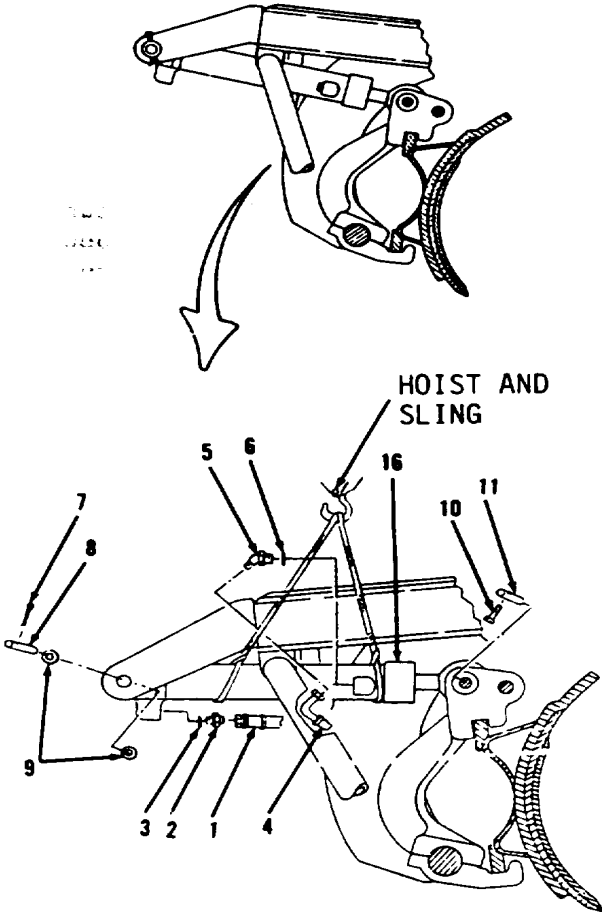

Figure 10-126.
1. Disconnect hose assembly (1, Figure 10-126) from blade tip on circle assembly.
2. Remove connector (2) and preformed packing (3). Discard preformed packing (3).
3. Disconnect hose assembly (4).
4. Remove elbow (5) and preformed packing (6). Discard preformed packing (6).